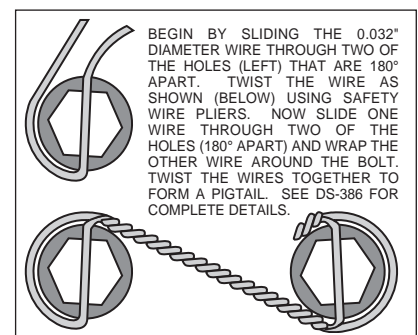

Figure 3. Safety Wire Diagram
- To accommodate several model years, multiple holes have been drilled in the caliper mounting bracket (1). Rotate the bracket until the two correct holes that align with the mounting holes in the face of the spindle are located. Apply red *Loctite*® 271 to bolt threads (2) before assembly of the caliper mounting bracket (1). Mount bracket (1) to dust face plate of spindle using bolts (2). Torque bolts (2) to 198 in-lb. **NOTE:** Be sure the heads of the caliper bracket (1) insert nuts are facing outward toward the wheel.
- Install wheel studs (3) into the hub (4). Torque to 77 ft-lb. **NOTE:** There are two five lug patterns in the hub (5 x 4.50 and 5 x 4.75). Make sure of the correct hole pattern for the correct wheel application before installing studs into hub.
- Pack the large inner bearing cone (5) with high temperature disc brake bearing grease (available from your local auto parts store) and install into the backside of the hub (4).
- Install the grease seal (6) by pressing into the backside of the hub (4).
- Attach the rotor adapter plate (7) to rotor (8) using bolts (9). Apply red *Loctite*® 271 to the threads and torque bolts (9) to 25 ft-lb. For an added measure of security, the bolts may be safety wired using standard 0.032 inch diameter stainless steel safety wire as shown in Figure 3. Please refer to Wilwood's data sheet DS-386 (available at www.wilwood.com/Pdf/DataSheets/ds386.pdf) for complete safety wire installation instructions. **NOTE:** The counterbored side of the rotor (8) should face away from the adapter plate (7), with the dished side of the adapter plate (7) facing away from the rotor (8).